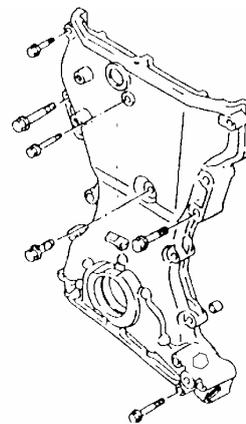

Fig. 4-96
- 5) Unscrew bolt on the synchronous chain cover assy. Remove synchronous chain cover assy. Shown as Fig.4-96.